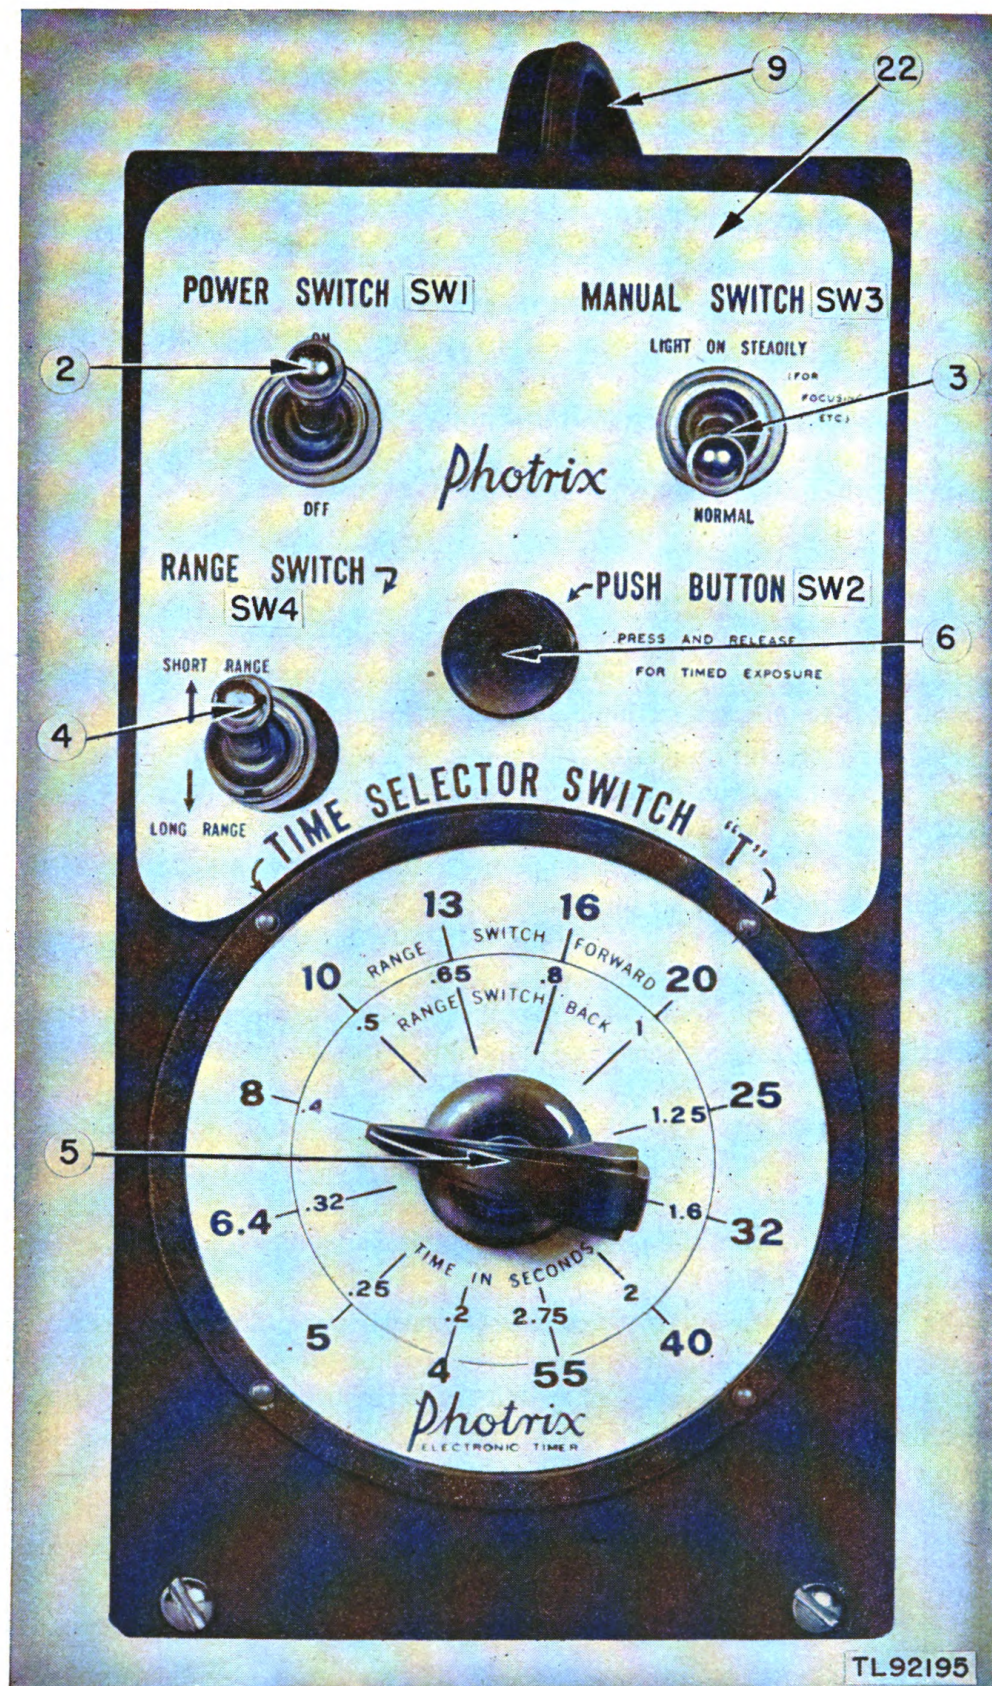

Figure 5. Top view showing controls.
4. Preparation for Use (fig. 5)
- b. When the timer has been connected and tested as outlined in *a*(1) through (8) above, it is ready for actual operation. Load the negative in the enlarger or printer and turn manual switch ③ to the LIGHT ON STEADILY position to focus. Return the MANUAL SWITCH to NORMAL, then set the time switches to the desired exposure. Put sensitized material in the easel or frame and press push-button switch ⑥ to make the exposure. For shading, spot-printing, dodging, etc., use the manual switch ③. When work is complete, throw power switch ② of the timer to the OFF position.
6. Remote Control Operation (figs. 5 and 6)